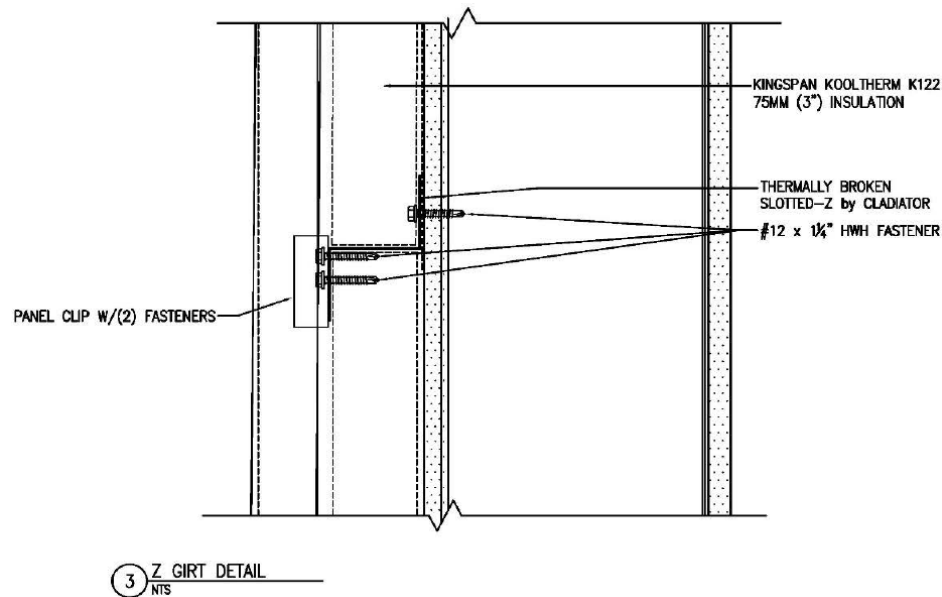

Figure 4 – Typical Slotted-Z Detail
7. **HORIZONTAL FRAMING:** Thermally Broken Slotted-Z by Cladiator framing members are attached horizontally to vertical framing members with 1.5 in. long Tek 5, 5/16 in. hex-head stainless steel screws, one per stud. Max. vertical spacing is 47-1/4 in. See Figures 4 and 5.